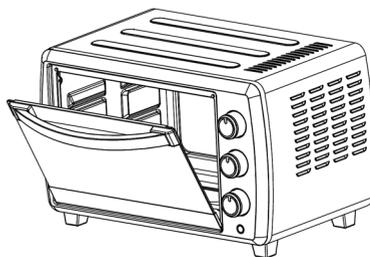

Fig. 5
9. If grilling or toasting, leave the oven door ajar (fig. 5).